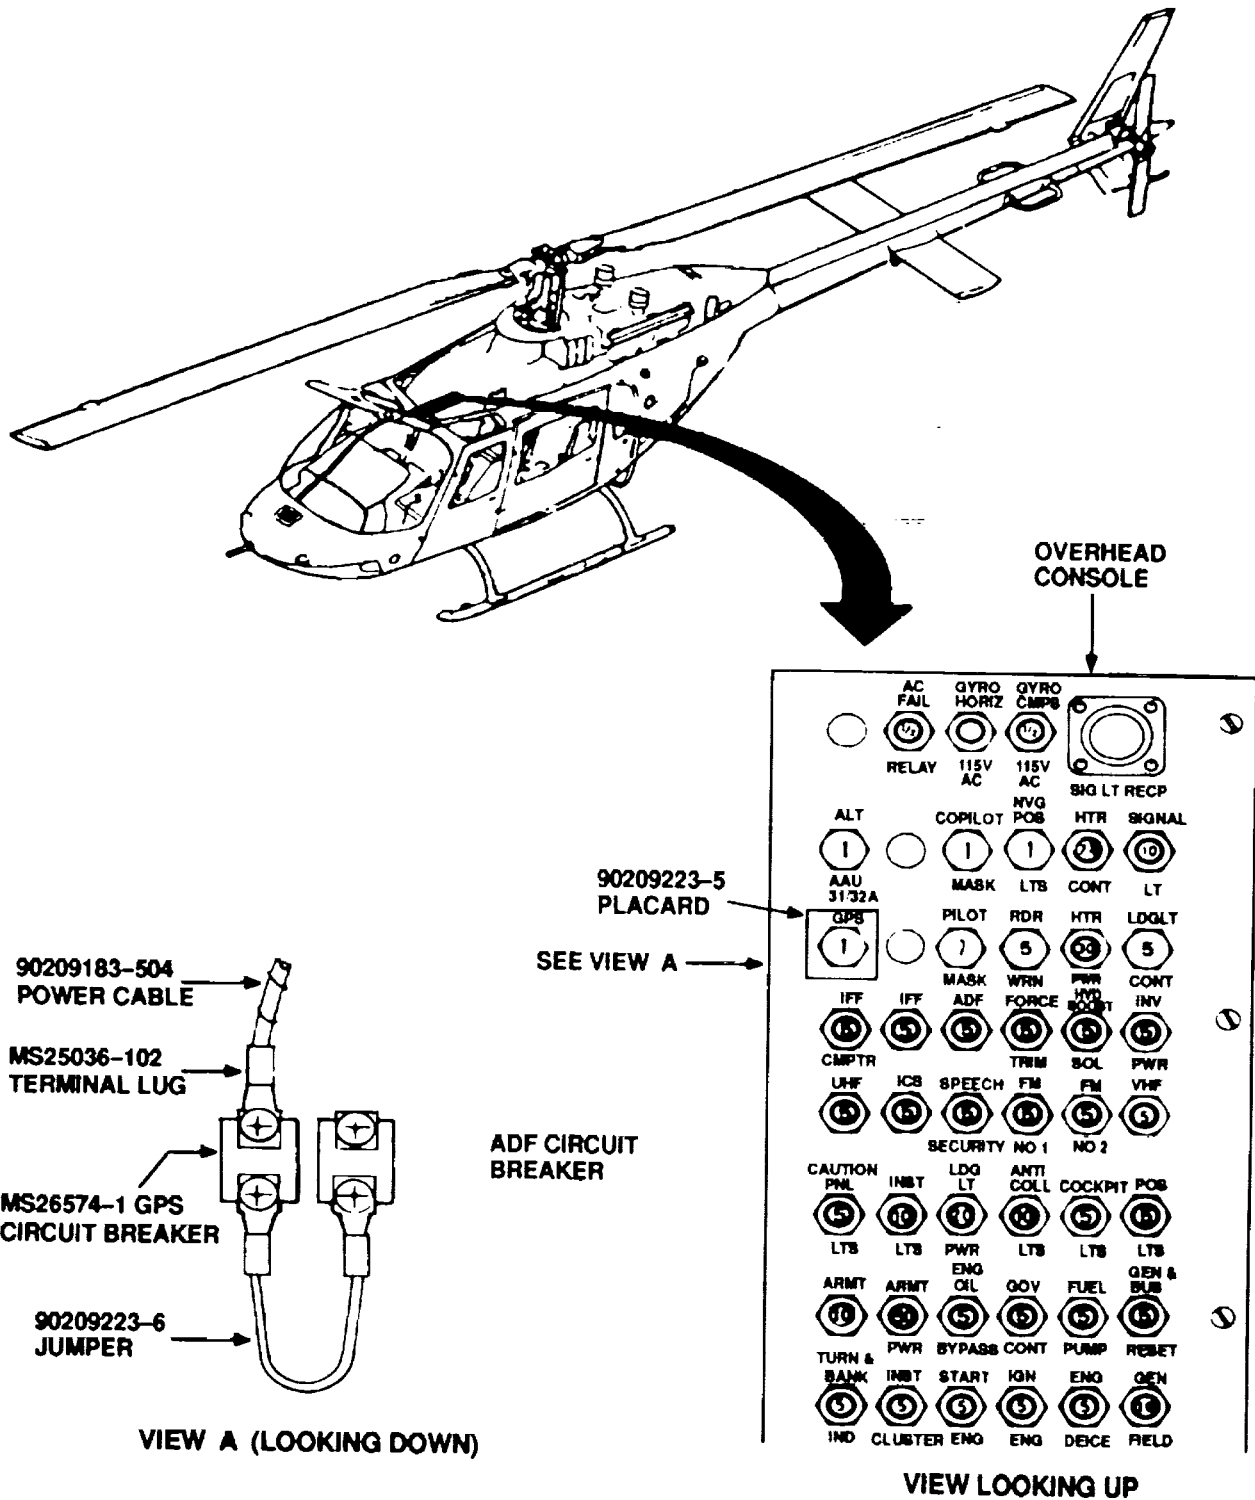

Figure 3. GPS Power Cable and Upper Console Installation.
- l. Remove jumper wire from line side of **RDR ALT** circuit breaker and line side of **GPS** circuit breaker (Figure 3, View A).
- n. Remove circuit breaker (P/N MS26574-1) from overhead console (Figure 3).
- o. Remove GPS circuit breaker placard from overhead console (Figure 3).